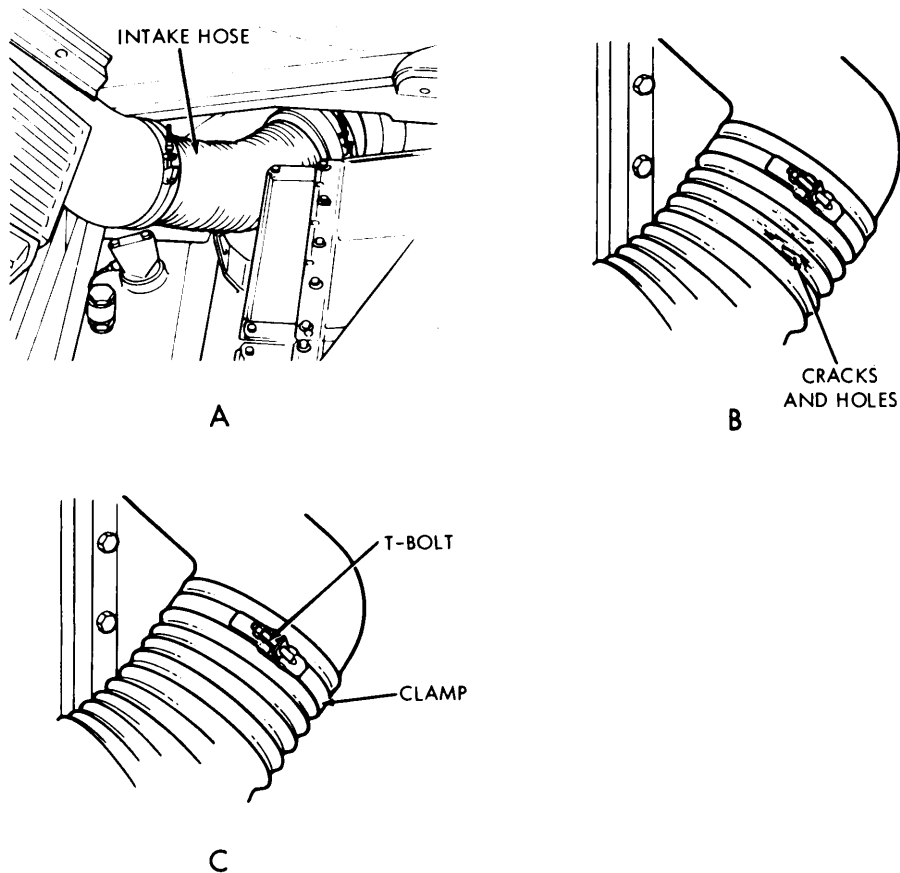

Figure 3-8. Air intake hoses inspection.
- (1) Air Intake Hoses Inlet Screen to Air Cleaner) (Fig. 3-8).